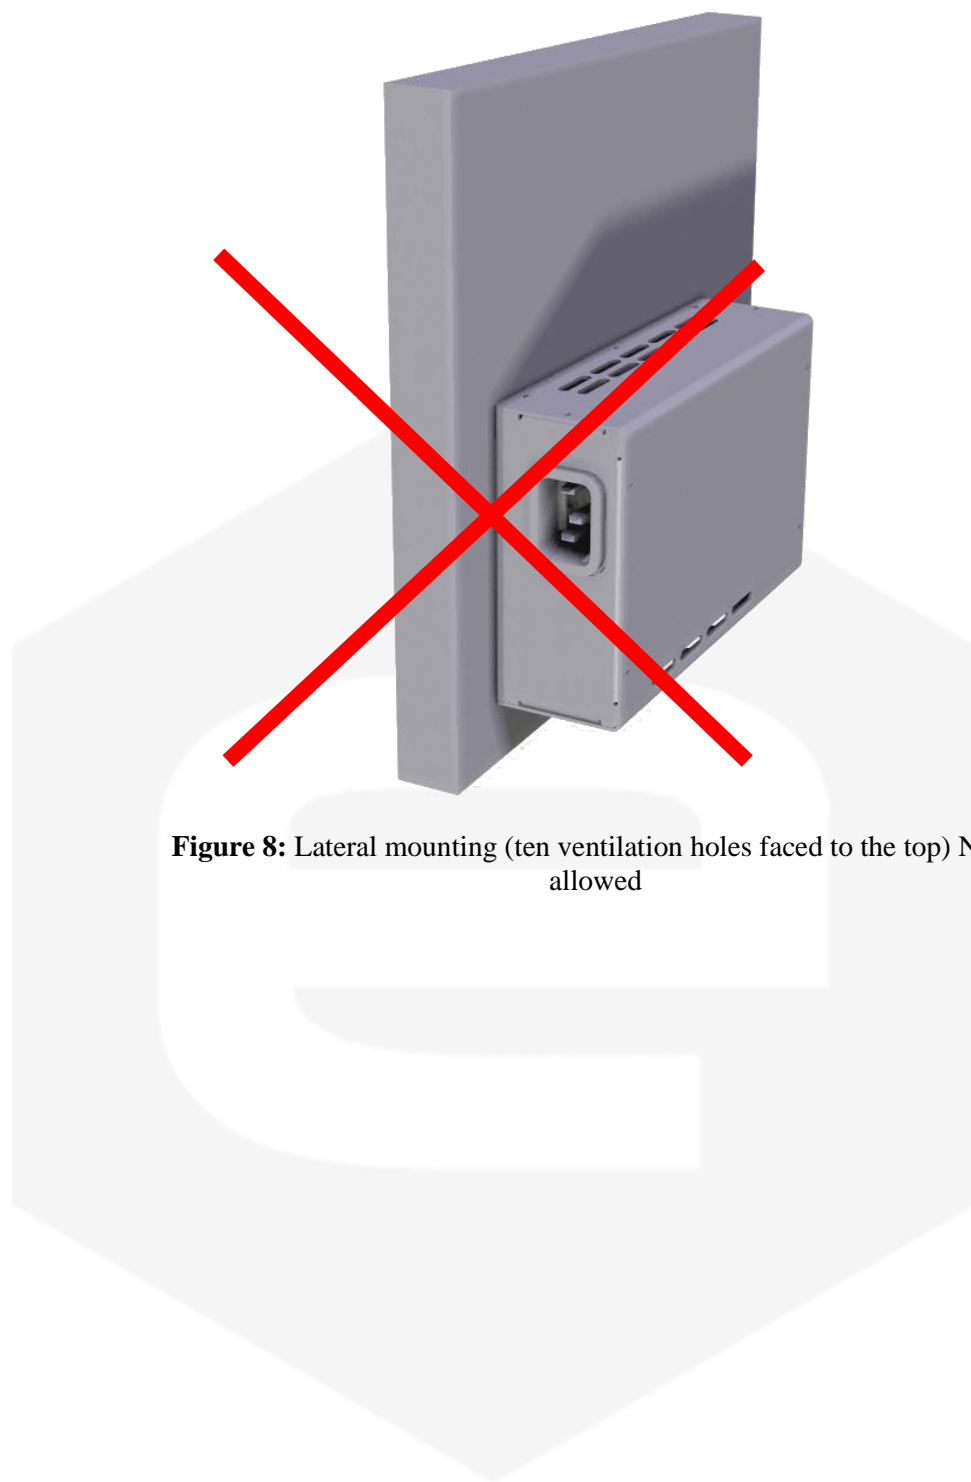

Figure 8: Lateral mounting (ten ventilation holes faced to the top) NOT allowed
- lateral side of the box that present ten ventilation holes faced to the top (**Figure 8**).